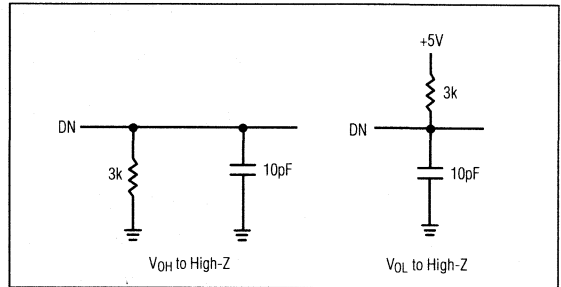

Figure 2. Load Circuits for Three-State Output Timing
**Note 5:** tTR is the time required for the data lines to change 0.5V, measured with load circuits of Figure 2.